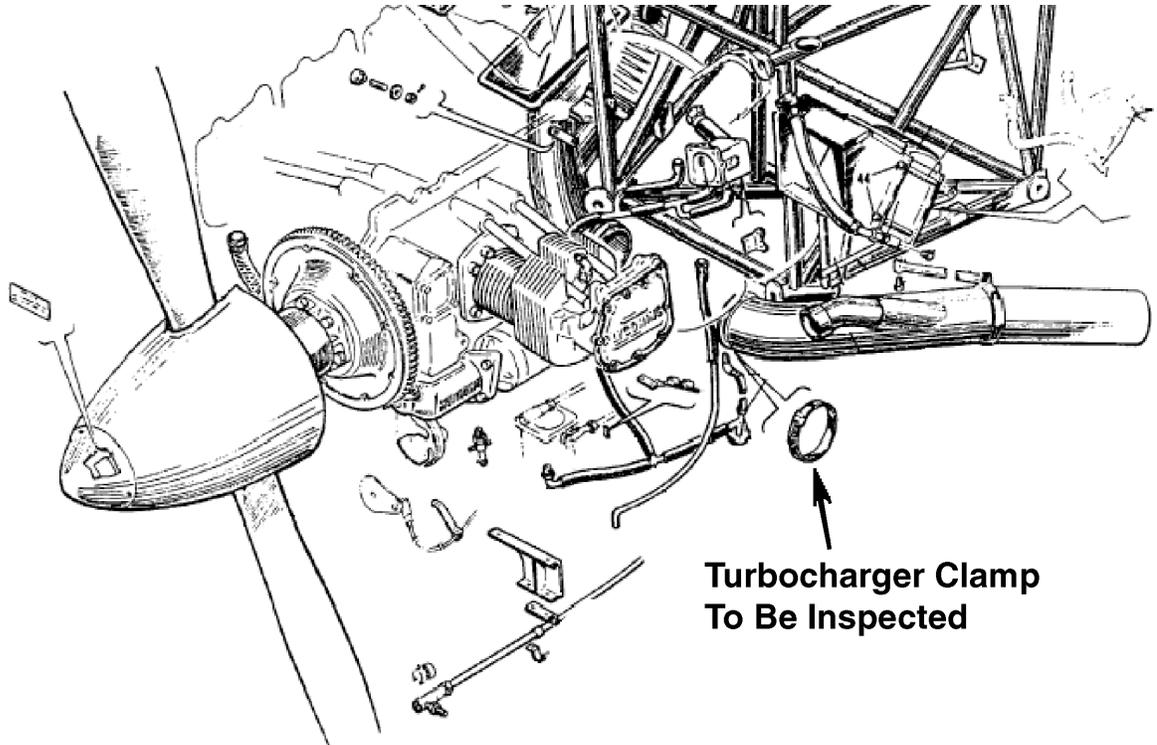

Figure 1
1. Remove the engine cowling, as required, (ref. Service Manual 753-564, Section VIII B) to gain access to the turbocharger clamp for inspection (Ref. Figure 1).